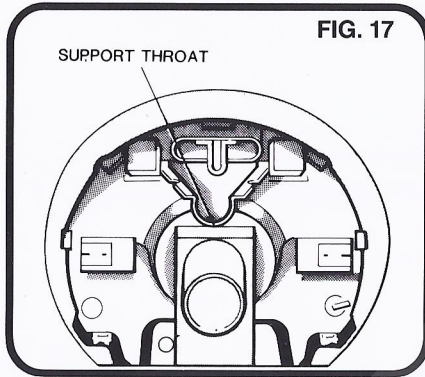

FIG. 17
### Fitting a Bowden Cable (Figs. 17 – 21)
- (a) Remove the steel sleeve from the support collar and detach the upper part of the Bowden cable support (Fig. 17).